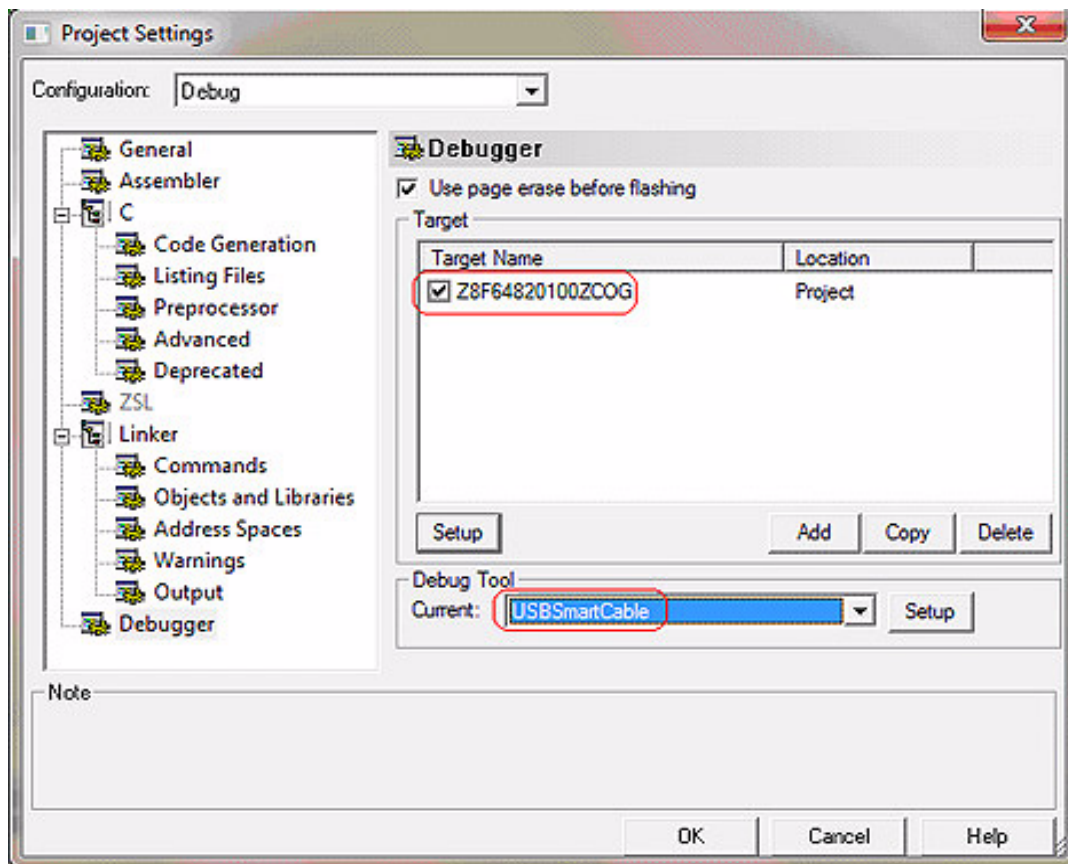

Figure 8. Select Z8F64820100ZCOG and USB SmartCable
7. On the Debugger page, select **Z8F64820100ZCOG** from the Target list, then select **USB SmartCable** from the Debug Tool drop-down menu, as shown in Figure 8.